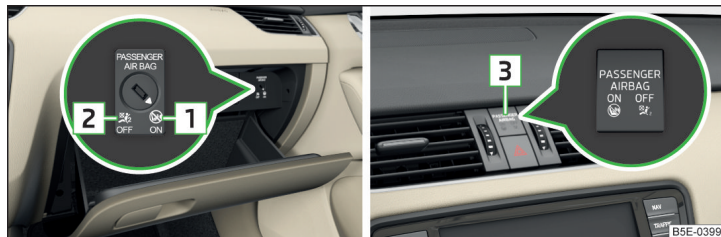

Fig. 14 Key-operated switch for the front passenger airbag/warning light for front seat passenger airbag deactivation
- The indicator light    3 » Fig. 14 on page 20 lights up after the ignition is switched on.
- Use the key to turn the slot of the key switch into position **2** » Fig. 14 OFF.
- Use the key to turn the slot of the key switch into position **1** » Fig. 14 ON.